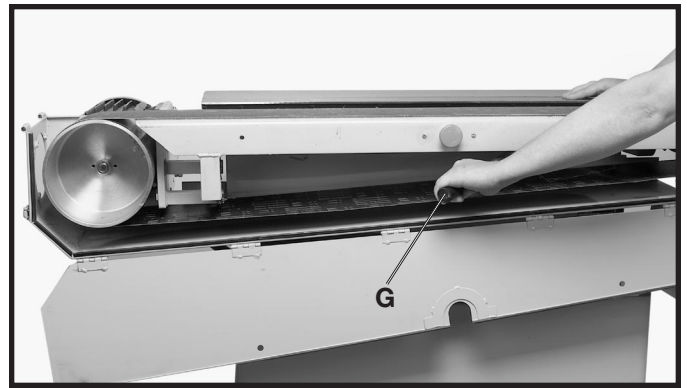

Fig. 10
6. Slowly release the belt tension lever handle (G) Fig. 10, by grasping the lever handle (G) and pushing it in until it stops.